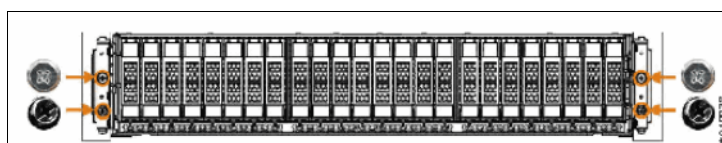

Figure 6-6 Securing the front of the control enclosure to the rack
4. Secure the enclosure to the front of the rack. Some enclosures are secured by one silver captive screw and one black M5 screw on each flange. In this case, align the enclosure, fasten the two captive screws, then fasten the two M5 screws. See Figure 6-6.